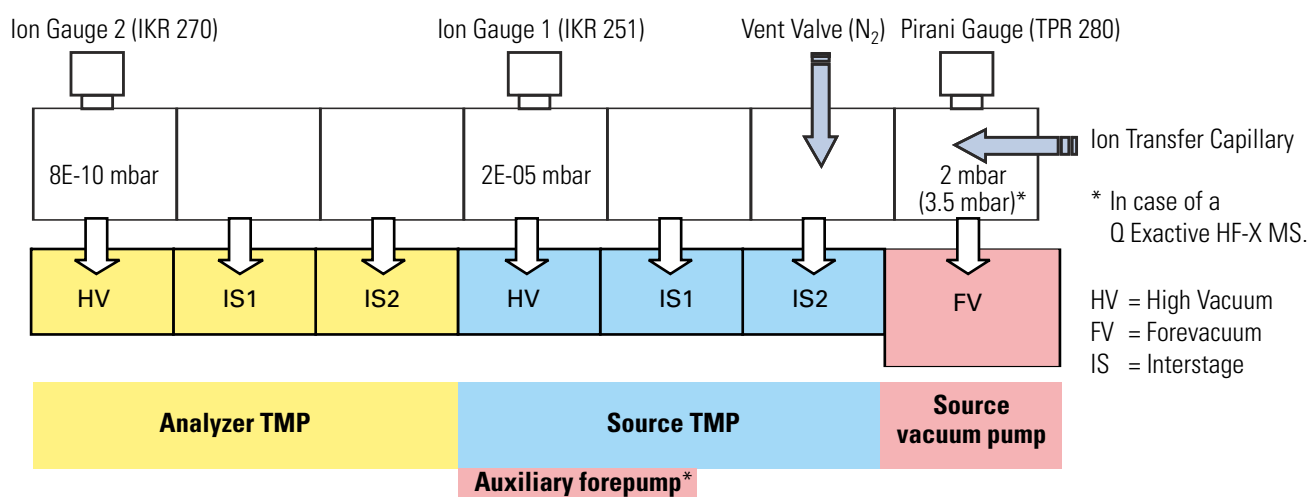
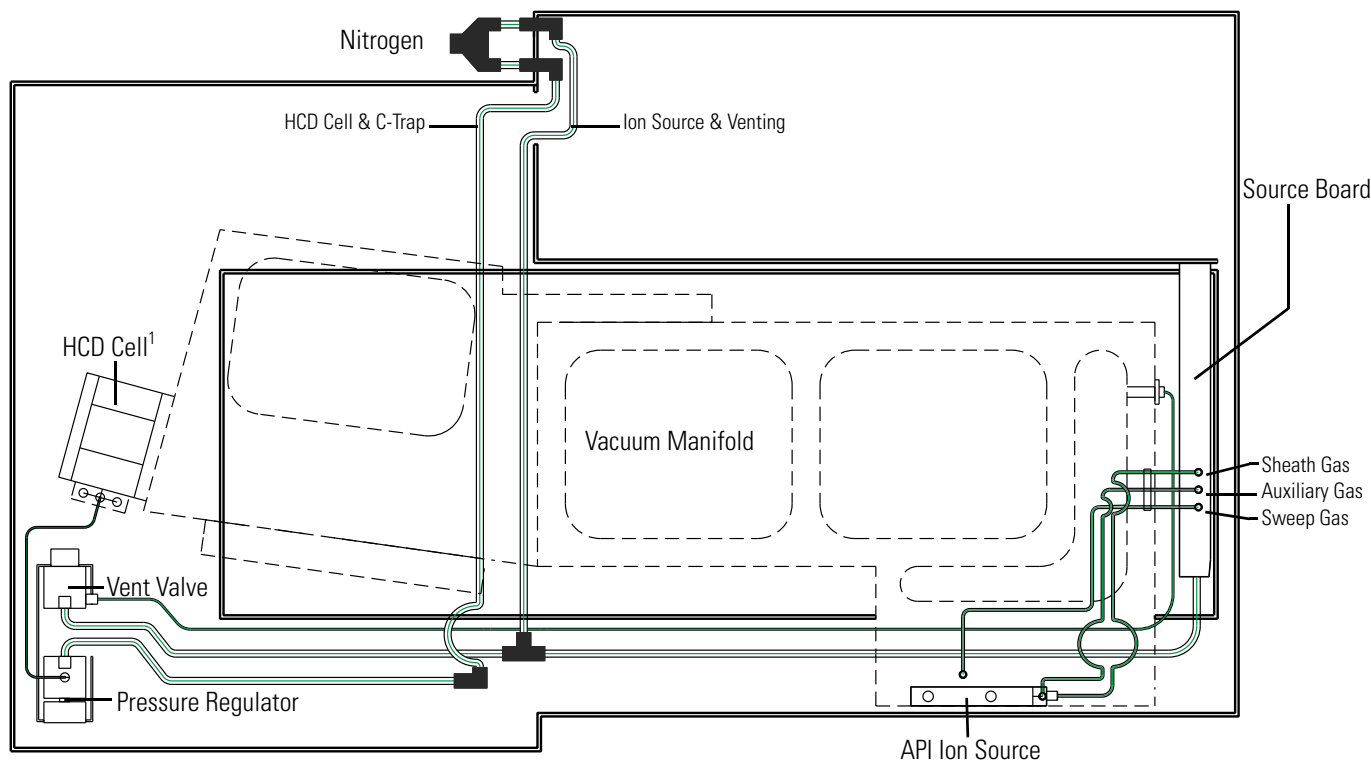

Figure 3-26. Schematic of vacuum system in Exactive Series MS
Figure 3-29. Schematic of gas supply
The vacuum manifold encloses the ion source interface, ion guides, C-Trap, and the Orbitrap analyzer. The vacuum manifold consists of thick-walled aluminum chambers with machined flanges on the front, sides, and bottom, and various electrical feedthroughs and gas inlets. The vacuum manifold is divided into three chambers. The region inside the first chamber, called the S-lens region or funnel region, is evacuated by a rotary-vane pump (source vacuum pump). The region inside the second chamber, called the source chamber, is evacuated by a turbomolecular pump (source TMP). The region inside the third chamber, called the analyzer chamber, is evacuated by another turbomolecular pump (analyzer TMP). Figure 3-26 shows a schematic overview of the vacuum system, Table 3-9 shows the vacuum regions of the mass spectrometer. See page 3-16 for information about the vacuum gauges in the Exactive Series mass spectrometer.
The vacuum in the source chamber is created by a three-stage split flow TMP (SplitFlow 310, manufacturer: Pfeiffer Vacuum). The TMP mounts onto the bottom of the vacuum manifold. The source TMP has three pumping inlets (see Figure 3-26 on page 3-40):
The vacuum in the analyzer chamber is created by a second three-stage split flow TMP (TURBOVAC 250i, manufacturer: Oerlikon Leybold Vacuum). The pump mounts onto the bottom of the vacuum manifold. The analyzer TMP has three pumping inlets (see Figure 3-26 on page 3-40):
The vacuum manifold is vented when external power is removed from the instrument. (Power is removed from the instrument by a power failure or by placing the main power circuit breaker in the Off (O) position.) Power is provided to the vent valve for a short time after the external power is removed. If external power is not restored to the instrument in this time, power to the vent valve solenoid is shut off. When power to the vent valve solenoid is shut off, the vent valve opens and the manifold is vented with nitrogen. See Figure 3-26 on page 3-40 and Figure 3-29 on page 3-46. The vent valve closes after power is restored to the instrument.
Exactive Series mass spectrometers require high-purity (99%) nitrogen for the API source gases (sheath/auxiliary/sweep gas), for the collision gas (bath gas) of the C-Trap, and for the collision gas for the HCD cell (if present¹). Nitrogen is also used to vent the vacuum manifold with the vent valve if the system is shut down. The required pressure is 800 ± 30 kPa (8 ± 0.3 bar, 116 ± 4 psi). The vented vacuum manifold is protected against overpressure by pressure relief valves. Figure 3-29 shows a schematic of the gas supply in the instrument.
If you use only high-purity nitrogen, the gas that comes from the gas supply in the laboratory enters the instrument through a Y-piece that is connected to both nitrogen ports. See Figure 3-29. For the HCD cell,